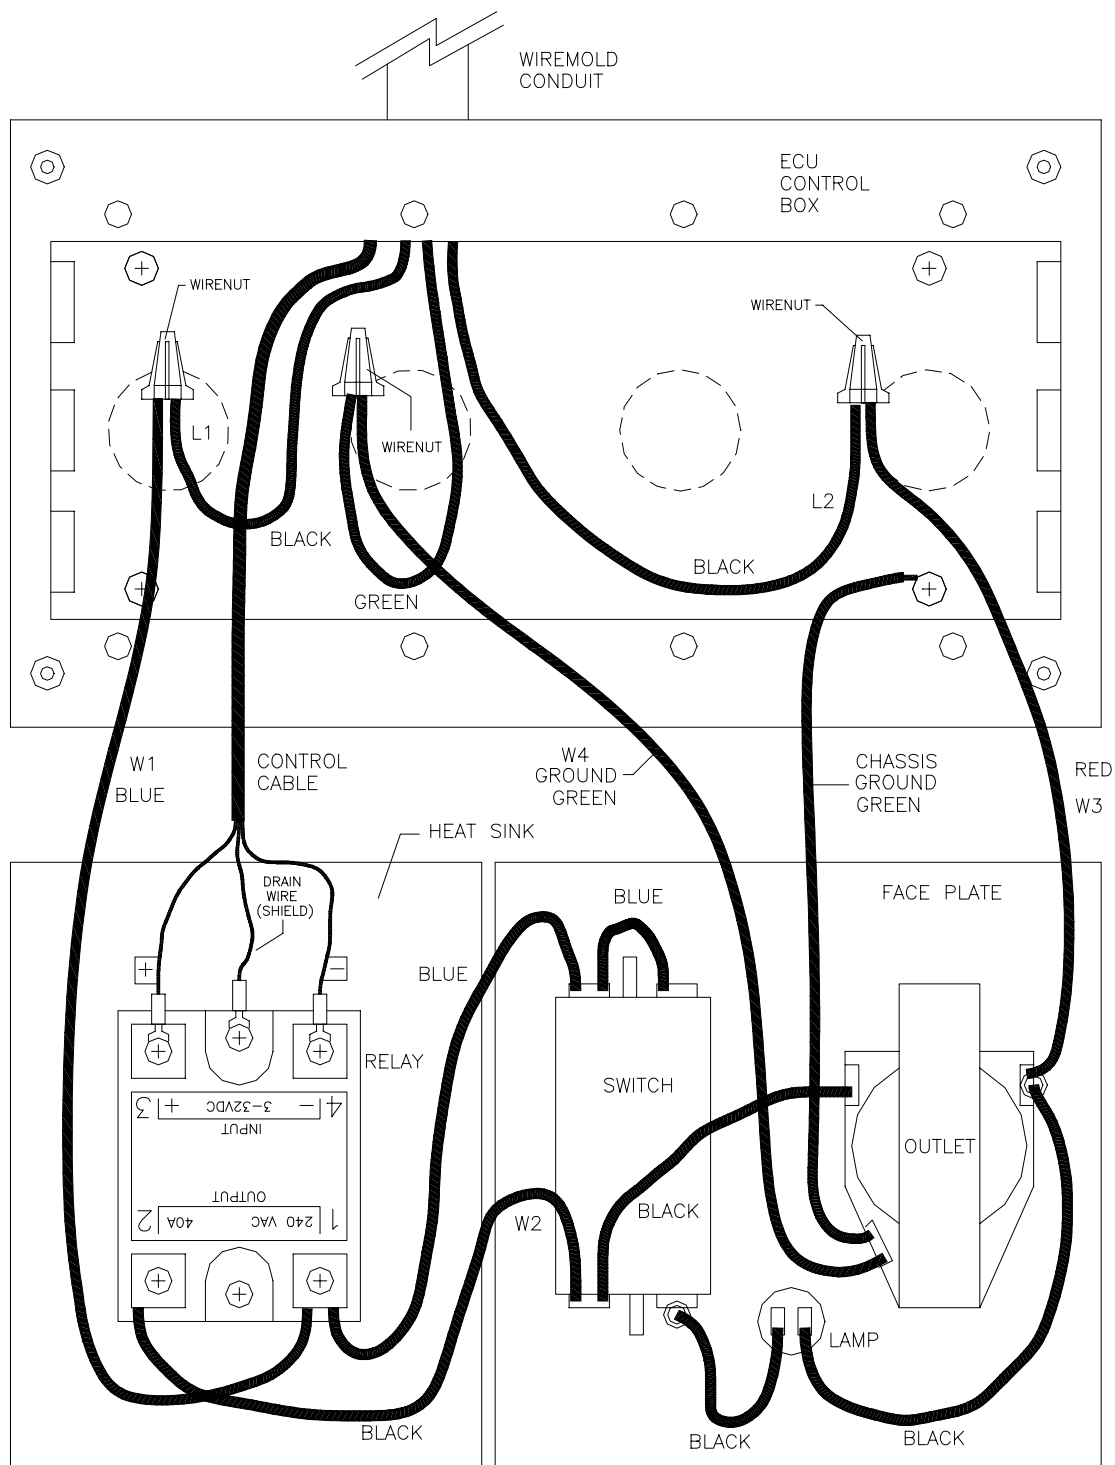

Figure 3-10 Air Conditioner Control Box Wiring Diagram
3. Swing the face plate and heatsink away from the ECU control box as shown in Figure 3-10.
4. Loosen or remove the four terminal screws on the relay, and remove the power and control wires (see Figure 3-10).